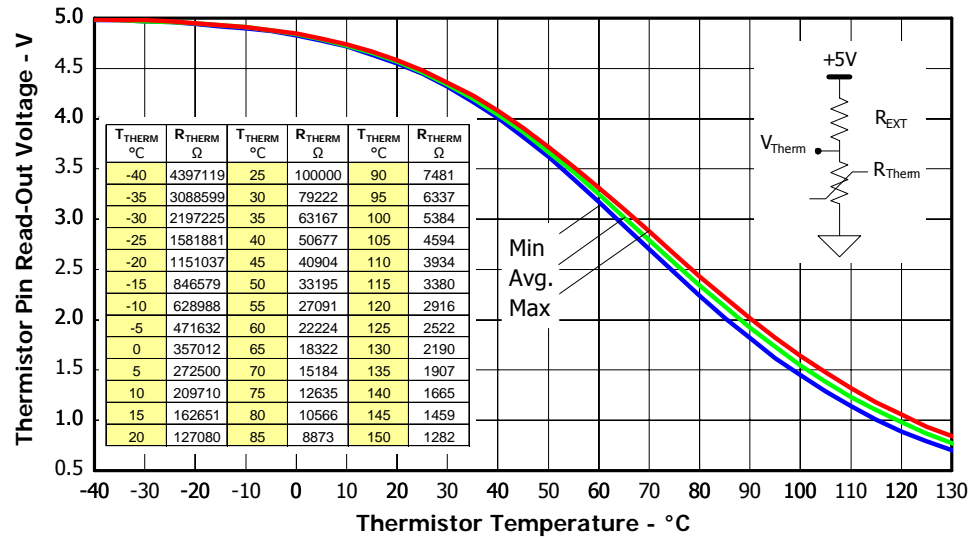

Figure 9. Thermistor Readout vs. Temperature (12kohm pull-up resistor, 5V) and Nominal Thermistor Resistance values vs. Temperature Table.
3. Value of the boot-strap capacitors depends upon the switching frequency. Their selection should be made based on IR design tip DN 98-2a, application note AN-1044 or Figure 9. Bootstrap capacitor value must be selected to limit the power dissipation of the internal resistor in series with the V_{CC} . (see maximum ratings Table on page 3).